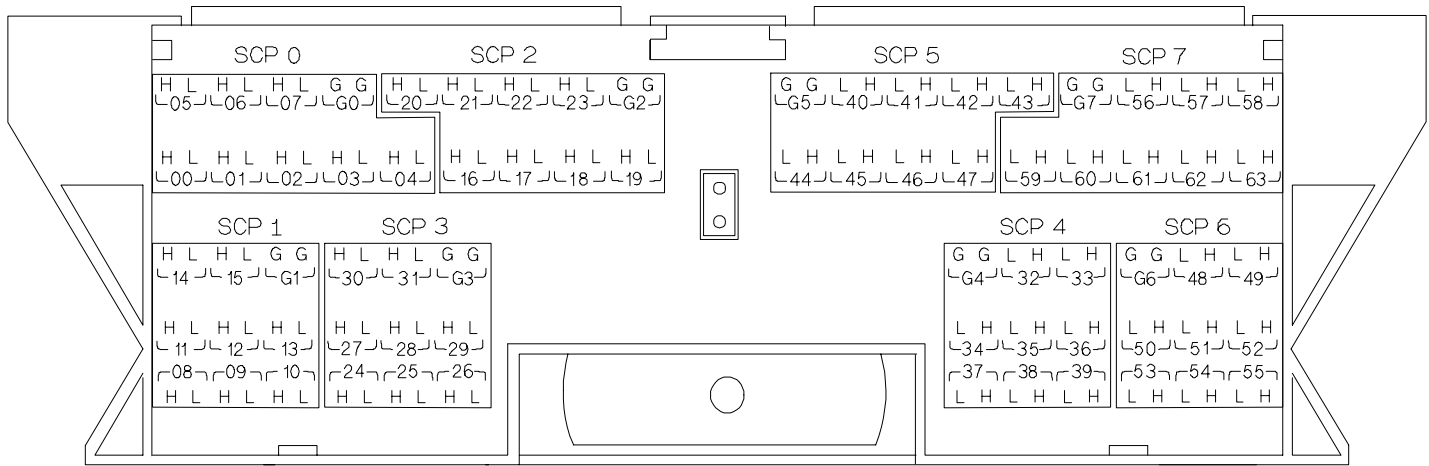

Figure 4 HP E1413 Option 19 Terminal Module Connections
- For HP E1413B and below Terminal Modules, use stickers for HP E1413 Option 19 SCPs. The connections are shown in Figure 4.